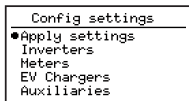

fig. 11: Config settings
- 5.1 Go back to the “Config settings” (fig. 11) with the  button, or navigate to it again if the menu has disappeared.